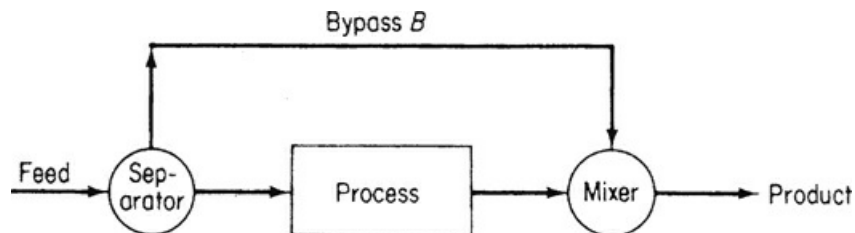

Figure 5.10 A process with a bypass stream
Two additional commonly encountered types of process streams are shown in Figures 5.10 and 5.11:
- A **bypass** stream is one that skips one or more stages of the process and goes directly to another downstream stage (Figure 5.10).